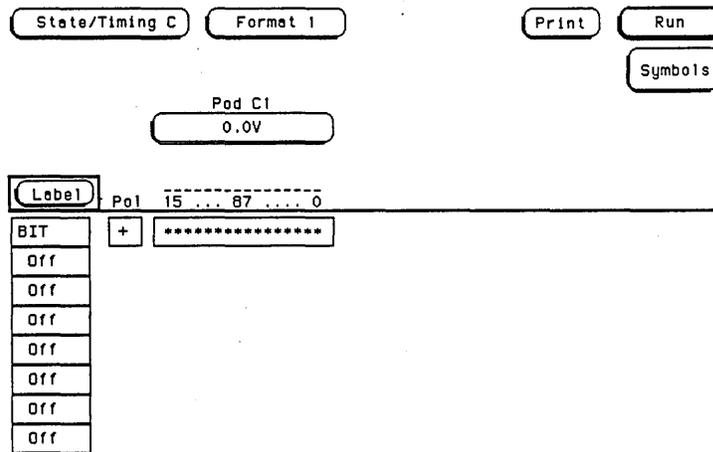

Figure 3-40. Format Screen
3. Configure the Format screen for User defined pod threshold of +0.0 V for the pod under test and assign all bits of the pod to a label as in figure 3-40. Refer to steps a through c if unfamiliar with menus.